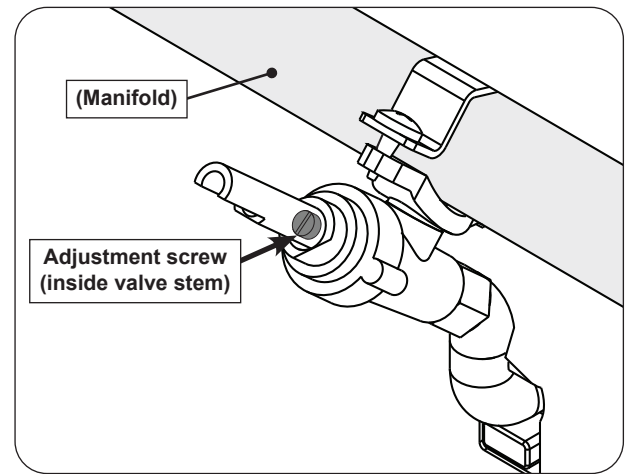

Fig. 57-1 Valve adjustment screw location
4. Locate the FLATHEAD adjustment screw found inside the valve stem (see Fig. 57-1).